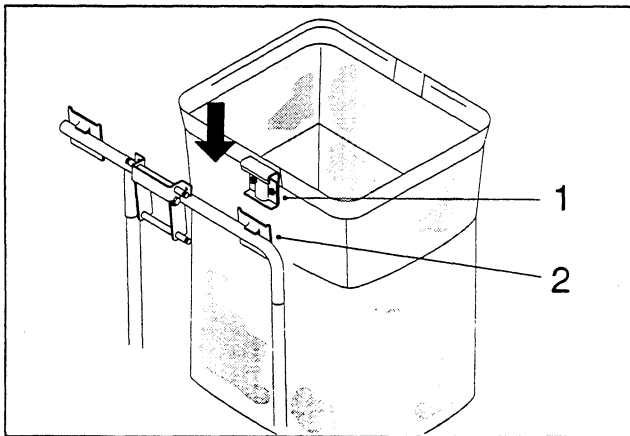

Figure 11
3. Slide the bag frame hook onto the retaining bracket (Fig. 11).